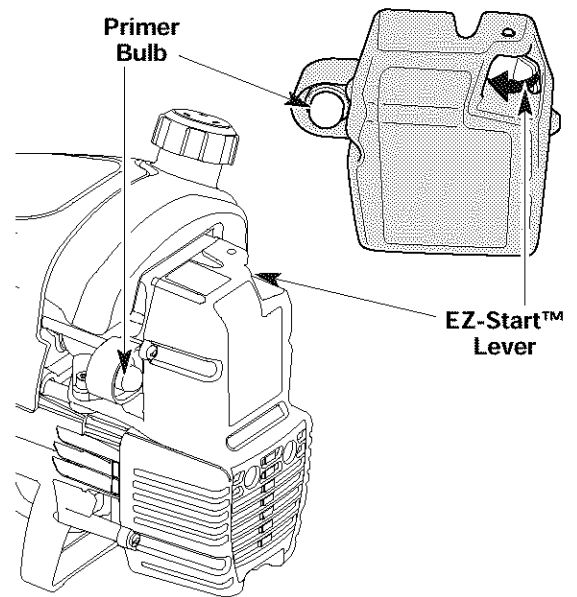

Fig. 7
2. Fully press and release the primer bulb 10 times, slowly. Some amount of fuel should be visible in the primer bulb and fuel lines (Fig. 7). If you can't see fuel in the bulb, press and release the bulb as many times as it takes before you can see fuel in it.
3. Push the EZ-Start™ Lever towards the primer bulb until it clicks and locks into place (Fig. 7).